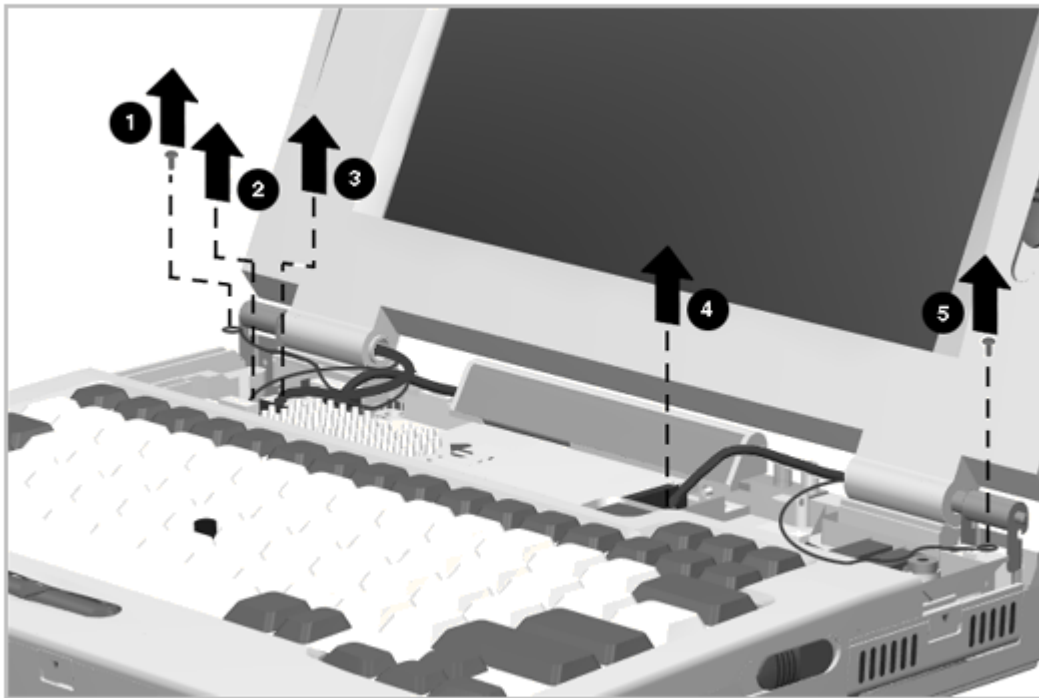

Figure 5-29. Disconnecting the Display Cables
3. Disconnect the display cables: one connector [4] and grounding lug [5] on the right, two connectors [2] [3] and one grounding lug [1] on the left (Figure 5-29).